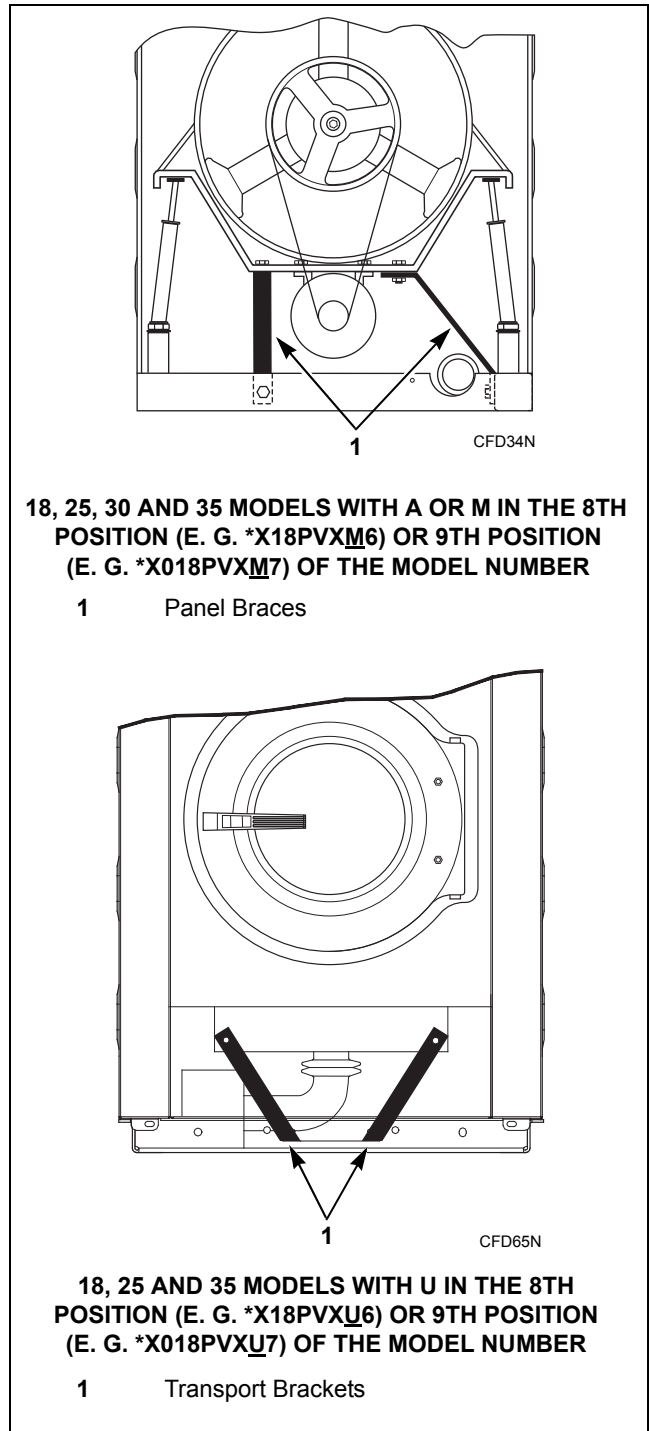
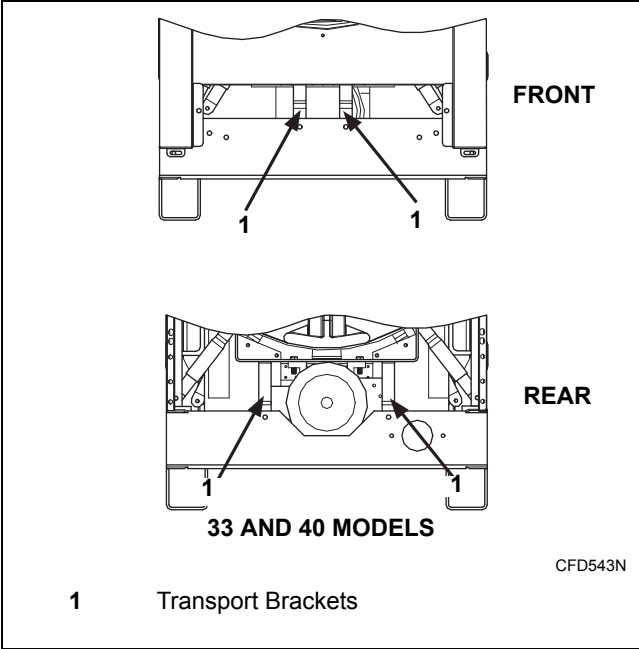
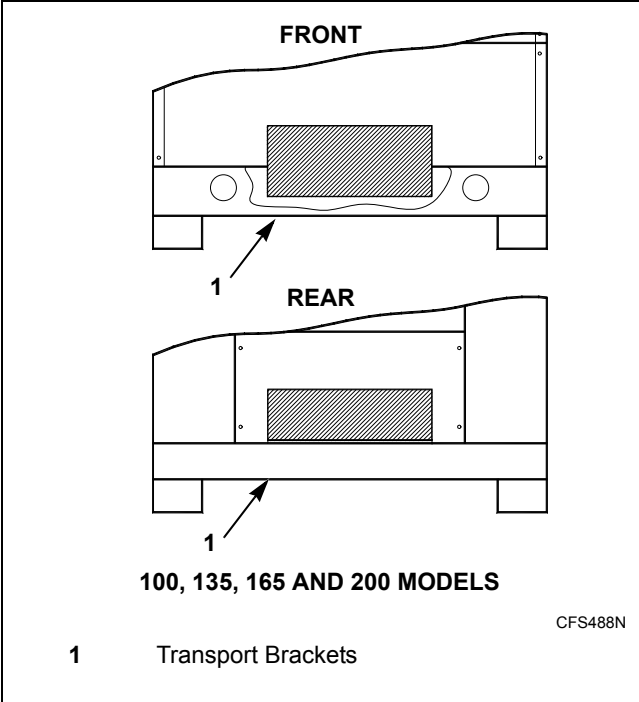
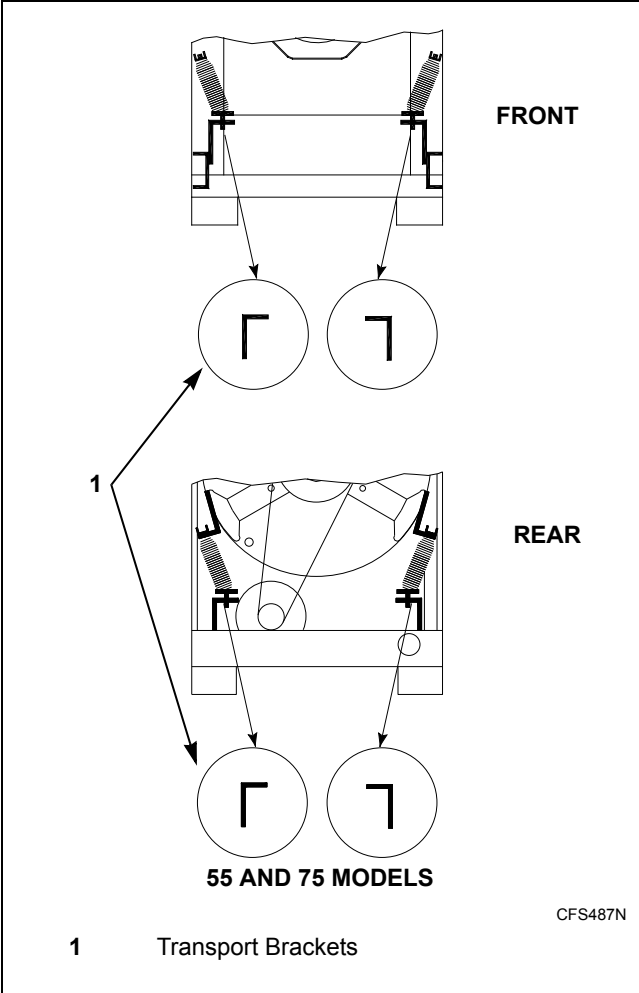

Figure 30
Figure 31
Figure 33
Figure 32
9. Remove the four red transport brackets which secure the moving components of the machine during shipping. Refer to *Figures 30, 32 and 33* for typical transport bracket locations.
To prevent damage during transportation, the machine has been equipped with four red transport brackets (refer to *Figure 30* for 18, 25 and 35 pound models; refer to *Figure 31* for 33 and 40 pound models; refer to *Figure 32* for 55 and 75 pound models [depending on model number]; refer to *Figure 33* for 100, 135, 165 and 200 pound models) to eliminate every possible movement of the tub.
3. For 18 and 30 pound models, remove the panel braces. Refer to *Figure 30*.
4. For 33 and 40 pound models, remove the transport brackets. Refer to *Figure 31*.